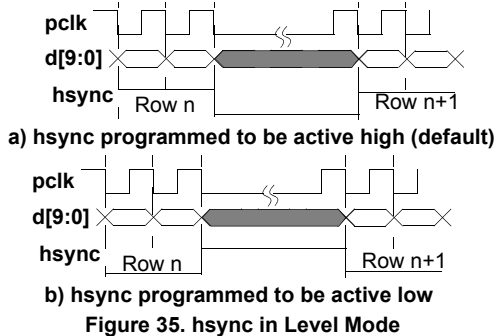

Figure 35. *hsync* in Level Mode
- Level mode should be used when the pixel clock, *pclk*, is programmed to operate in *free running mode*. In level mode the *hsync* output pin will go to the specified level (high or low) at the start of each row and remain at that level until the last pixel of that row is read out on *d[9:0]* as shown in Figure 35. The *hsync* level is always synchronized to the active edge of *pclk*. The *hsync* pin is put into level mode by setting the *HsyncMode* bit of the *DVBUSCONFIG1* register to a logic 0. The active level of the *hsync* pulse is programmed using the *HsyncPol* bit of the *DVBUSCONFIG1* register.